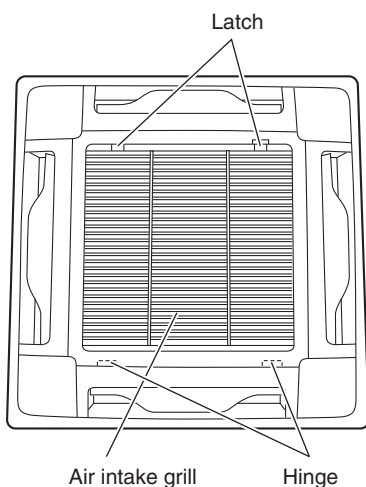

Fig.1
- (1) Slide the 2 latches each to the corresponding arrow direction. (Fig. 1 and Fig. 2)